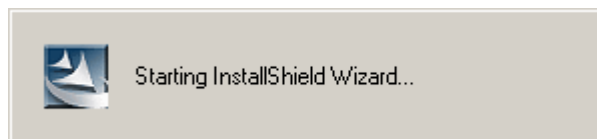

Figure 6-19: The InstallShield Wizard Starts
- Step 4:** The **InstallShield Wizard** starts (**Figure 6-19**).